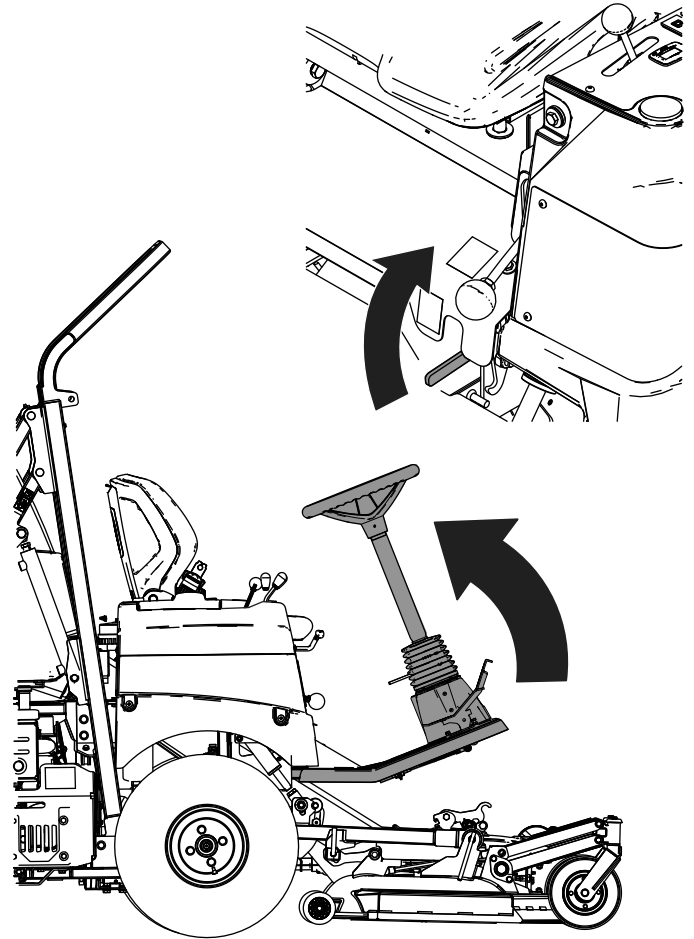

Figure 87
7. Lift the operator platform upwards and engage the locking lever (Figure 87).